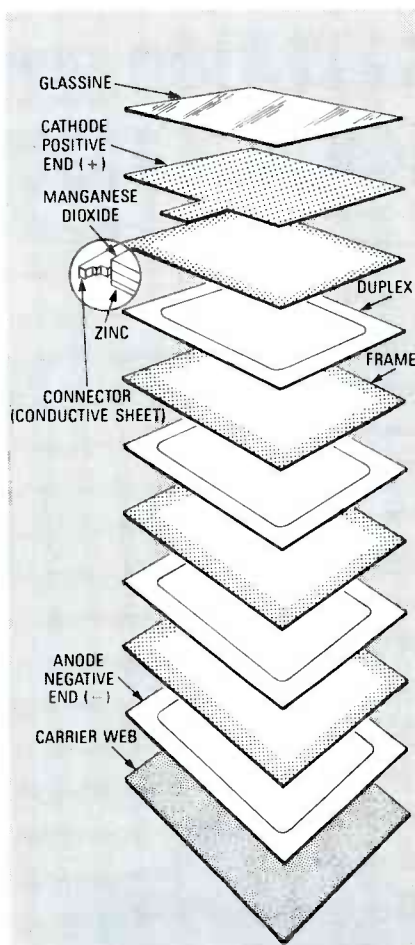

FIG. 4—THE LARGE ELECTRODE area of the Polapulse battery gives it the power to deliver enormous quantities of current.
A special form of the carbon-zinc design is the *Polapulse* battery (Fig. 4) used to power Polaroid instant cameras. Its thin, flat construction makes possible electrodes with large surface areas. That, in turn, gives it a large capacity—as much as 19 amperes of instantaneous current! A Polapulse experimenter's kit is available from Powercard Corporation, 391 Totten Pond Road, Waltham, MA 02154 (617) 890 6789. The P100 Designer's Kit contains five P100 batteries and a special holder for them; it costs \$17.50, and Massachusetts residents must add proper sales tax.